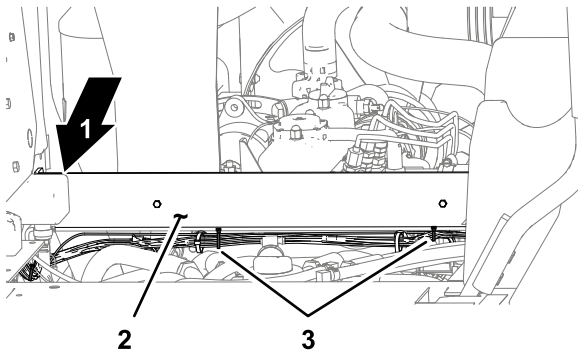

Figure 18
2. Below the cross channel, secure the power harness to the wire harness of the machine with 2 cable ties as shown in Figure 18.